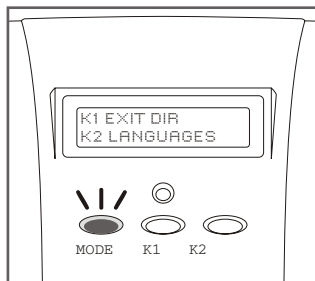

Figure 4
- 1) Once the unit is ready, press the “MODE” button (see figure 4).